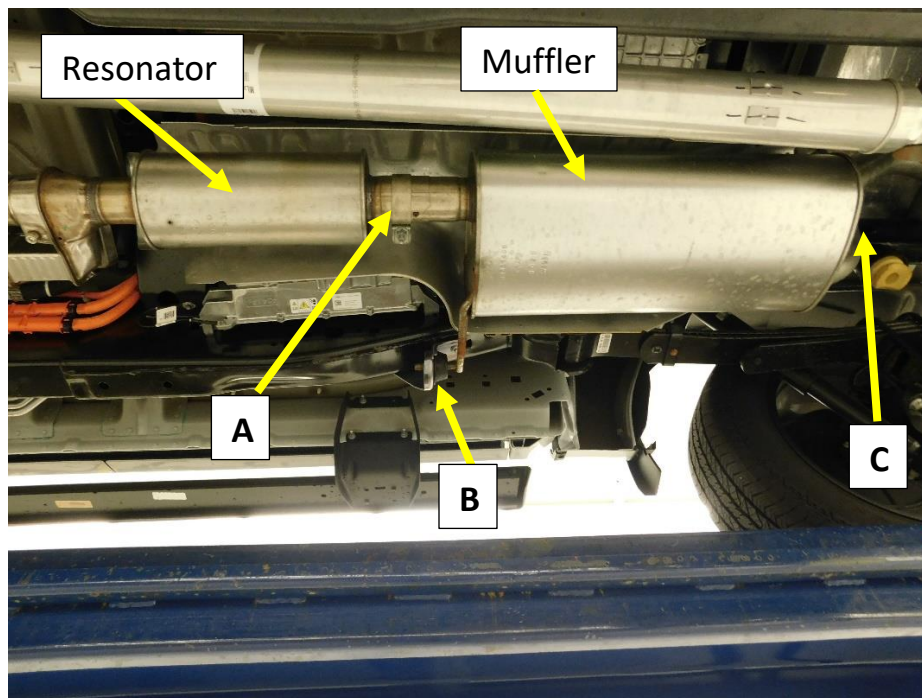

Figure 6
- Loosen the clamp at the slip joint between the muffler and the Resonator (**A**). **Fig. 6**
- Remove the (x3) bolts at the muffler hanger on the frame rail (**B**). **Fig. 6**
- Remove the bolt from the muffler hanger over the muffler and remove the hanger from the cross brace (**C**). **Fig. 6**